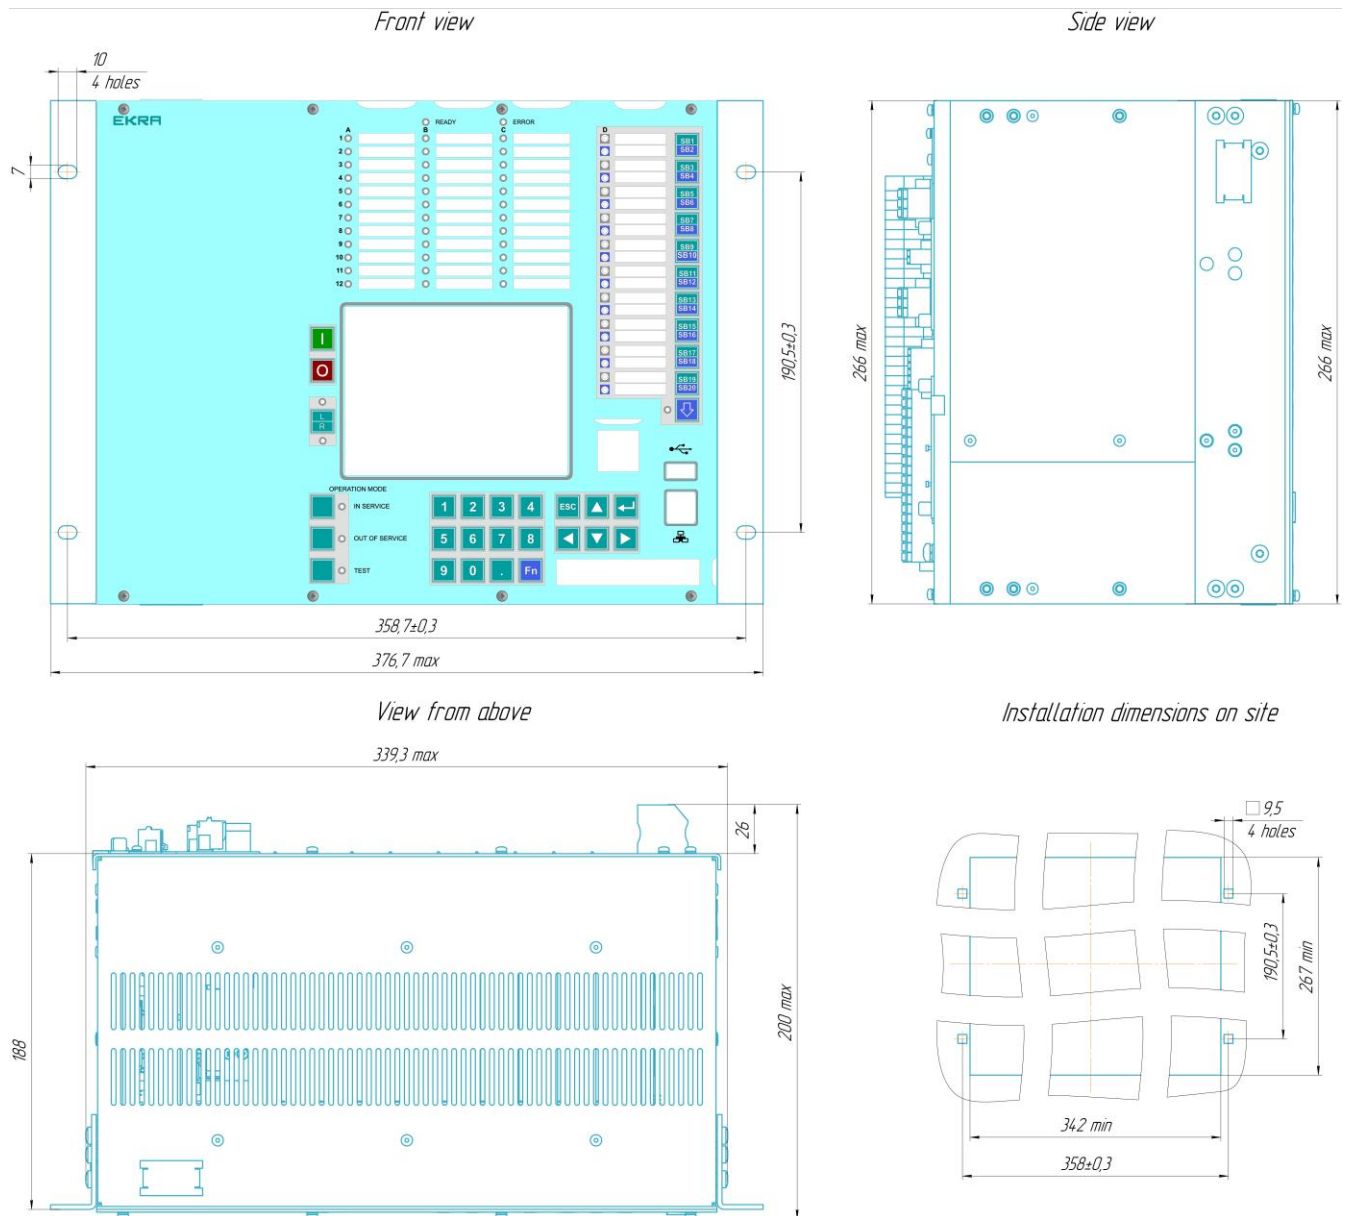

Figure 11 – General view, overall, installation dimensions of the ED2 devices of ¾ 19" design
5.9.3 General view, overall, installation dimensions of the of the ED2 devices of ¾ 19" design are shown in figure 11.